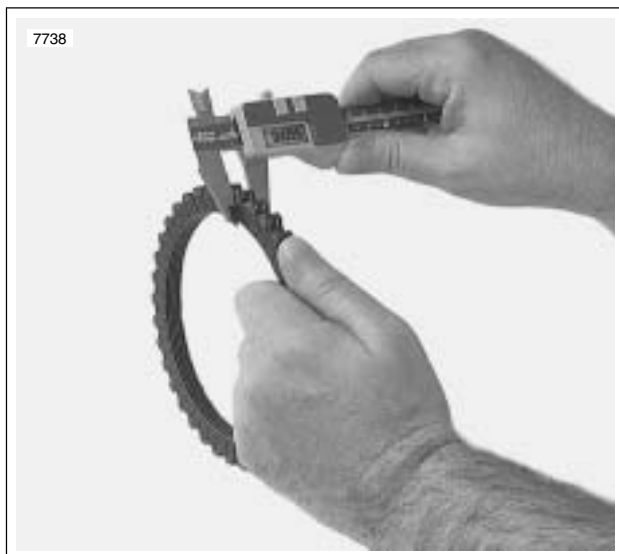

Figure 6-16. Measuring Friction Plates
5. See Figure 6-16. Check fiber plates for thickness.